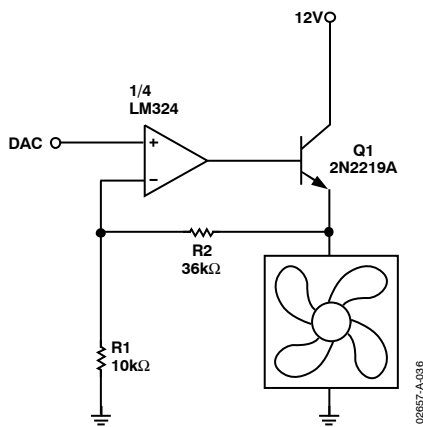
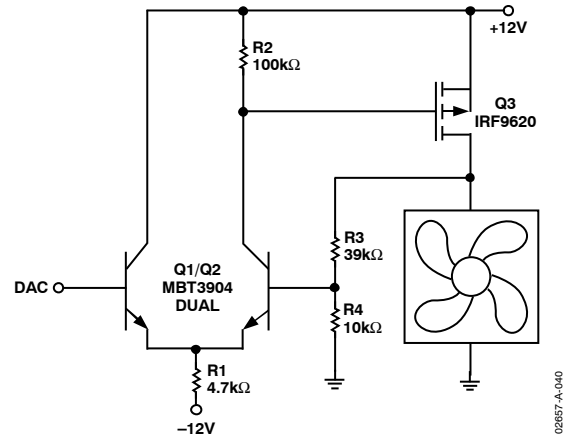

Figure 36. Fan Drive Circuit with Op Amp and Emitter-Follower
Figure 40. Discrete Fan Drive Circuit with P-Channel MOSFET, Dual Supply
Suitable fan drive circuits are shown in Figure 36 through Figure 40. When using any of these circuits, note the following:
- All of these circuits provide an output range from 0 V to almost  $+12 \text{ V}$ , apart from Figure 36, which loses the base-emitter voltage drop of Q1 due to the emitter-follower configuration.